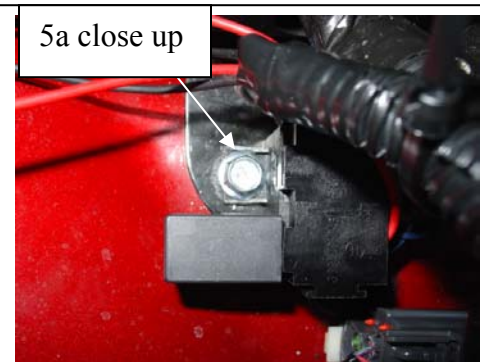

Figure 5b
5. Figure 5b shows the fuses. Use P/N 069-310 to attach the fuses. First make a pilot using a 1/8" drill bit. Line up the fuses and fasten them down.